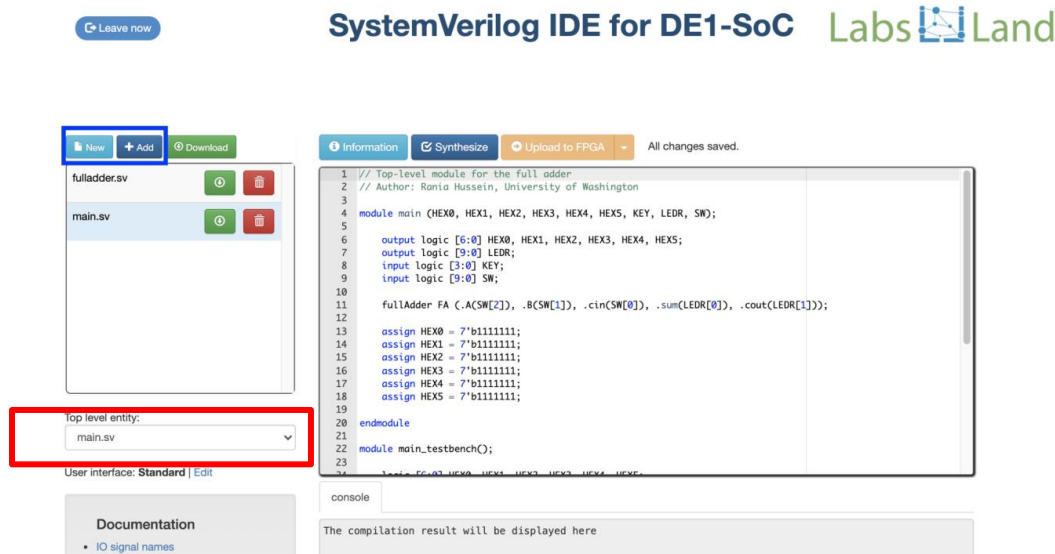

Figure 7: Setting the Top Level Module
- d) Choose the top-module using the dropdown menu under “Top level entity” (boxed in red in Figure 7). Make sure you select “DE1-SoC.sv” as the top-module.